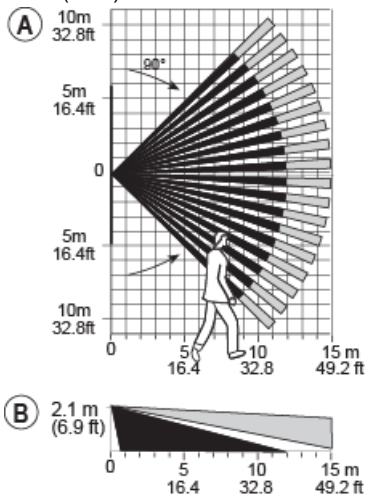

Figure 4. Coverage Pattern & Walk-test
- D. Walk-test the coverage area - see Figure 4. Walk across the far end of coverage pattern in both directions; the red LED lights each time your motion is detected followed by 3 LED blinks.